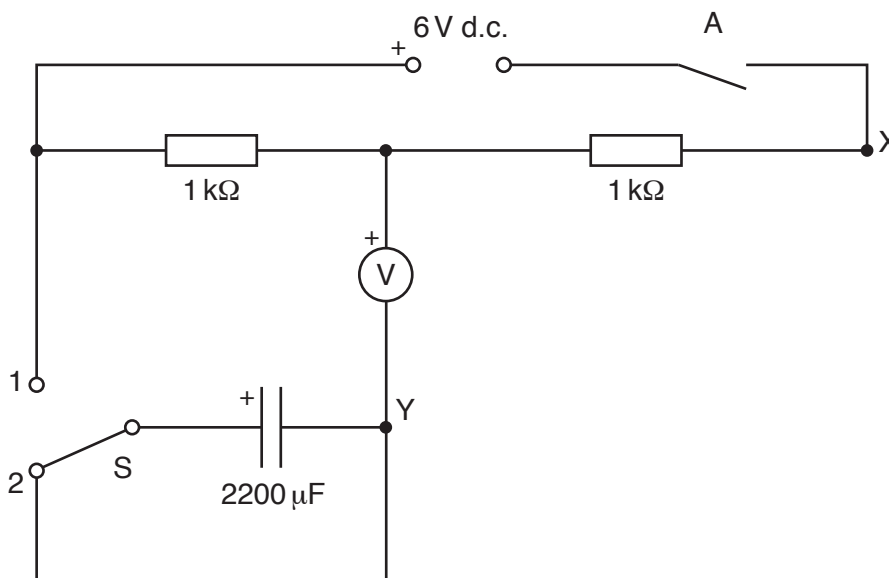

Fig. 1.1
- Assemble the circuit shown in Fig. 1.1.